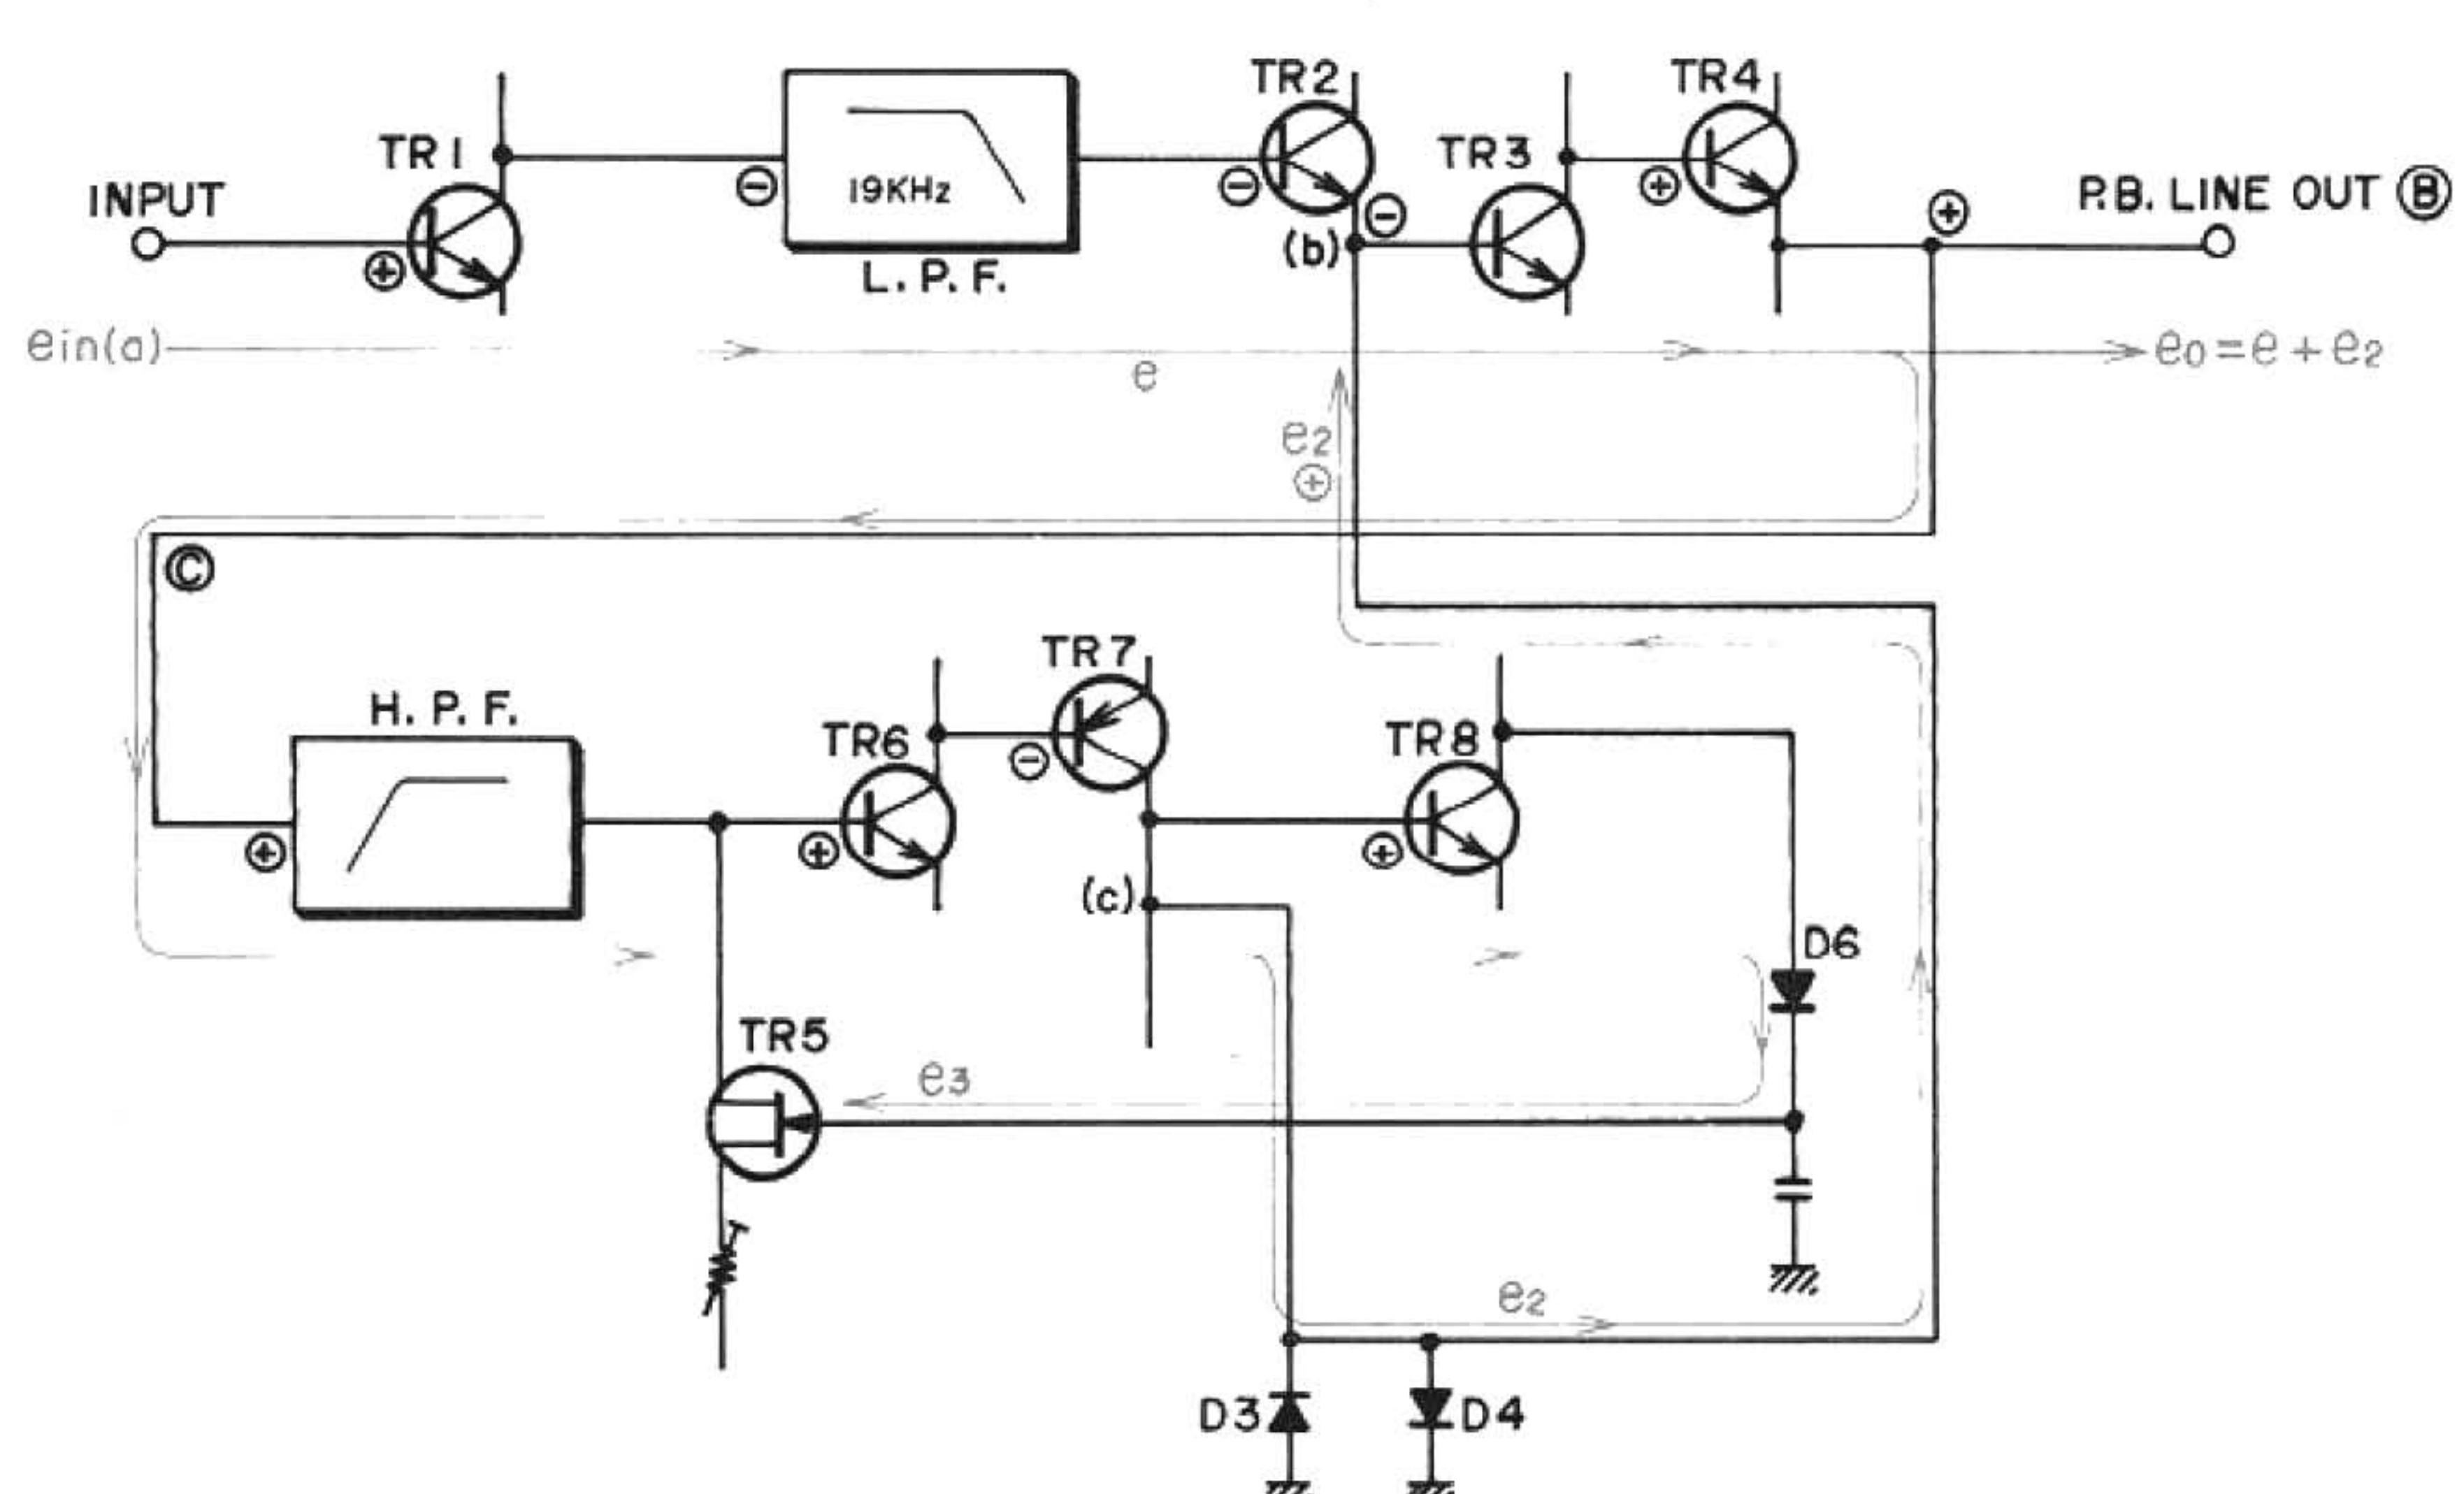

Fig. 49
2. PLAYBACK DOLBY N.R. SYSTEM (Refer to Figs. 49 and 50)
3) (Refer to Figs. 49 and 50)